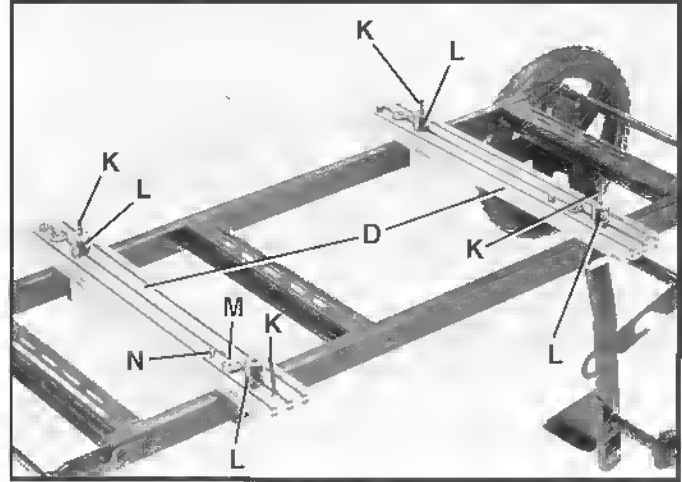
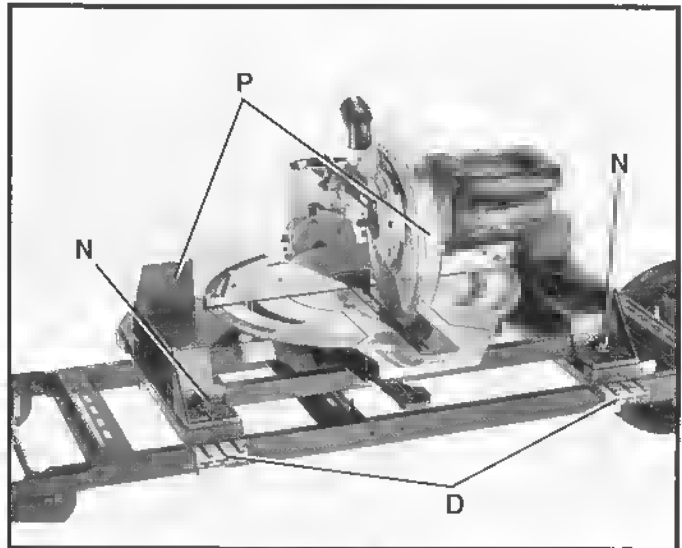

Fig. 35
Fig. 36
6. Regardless of the position of the mounting rails (D) Fig. 35, place one 2-1/4", carriage head screw (K) into each end of the mounting rails (D) as shown. **NOTE: Carriage head screws (K) must be inserted into one of the three slots in the mounting rails (D) as shown.** Also, spacers (L) must be placed onto the carriage screws (K) as shown if the saw you are using is notched out for mounting the saw to a saw horse.
7. Align the mounting holes in the miter saw base with carriage head screws (K) Fig. 35, and gently lower miter saw (P) Fig. 36, onto the mounting rails (D) so the carriage screws protrude up through mounting holes. Then center the saw base on the mounting rails (D) Fig. 35, and fasten saw to stand using the four flat washers (M) and lock nuts (N) Figs. 35 and 36. Tighten all mounting hardware at this time.